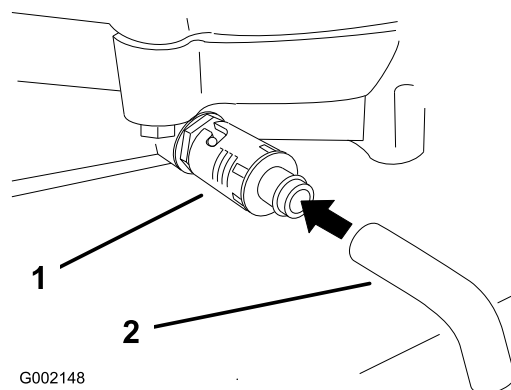

Figure 39
5. Place a pan below the drain. Rotate oil drain valve to allow oil to drain (Figure 39).